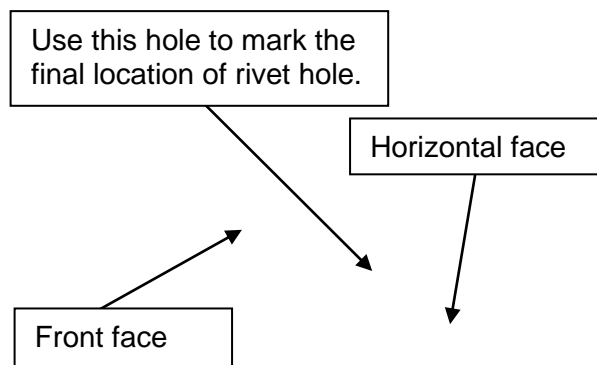

Figure 4
5. Refer to **Figure 4**. Place a guide block so that its hole lines up with the first mark. Press block down against horizontal face and up against front face of baseplate. Transfer center of guide block hole to baseplate. Repeat for second mark.